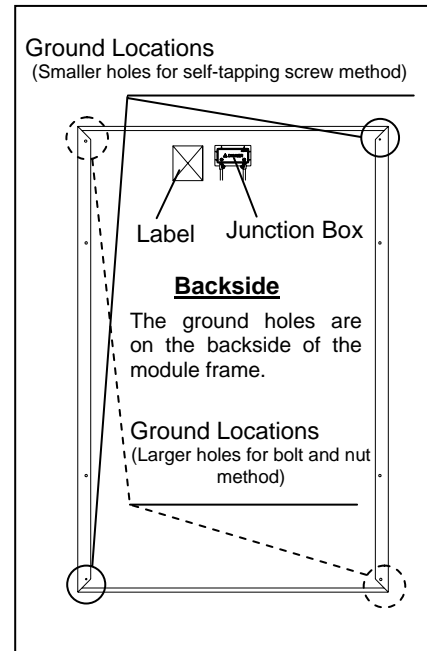

Figure 3.1
- These ground holes are marked with a "G" adjacent to their location on the frame rail (see Figure 3.1).
Method 1- Use a self tapping screw (see Figures 3.1 and 3.2)
Method 2- Use a bolt and nut (see Figures 3.1 and 3.3)